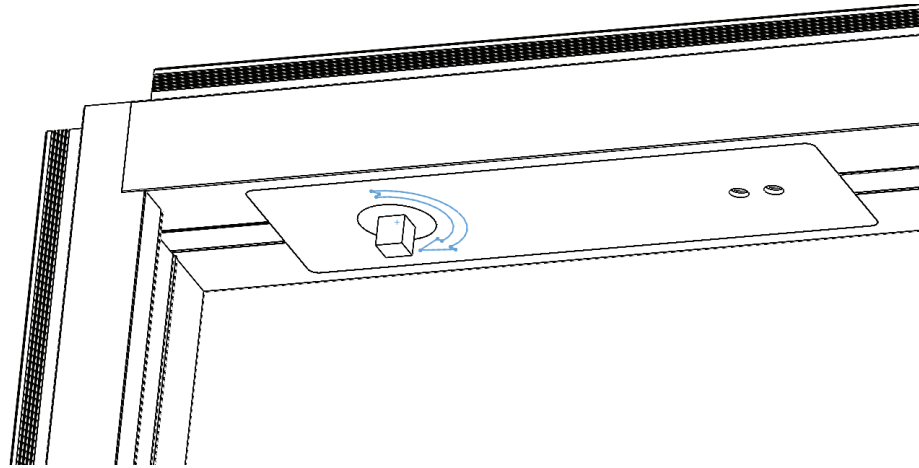

Figure 5
1. Rotate door closer square drive axle to the “hold open” position using an adjustable wrench See Figure 5.